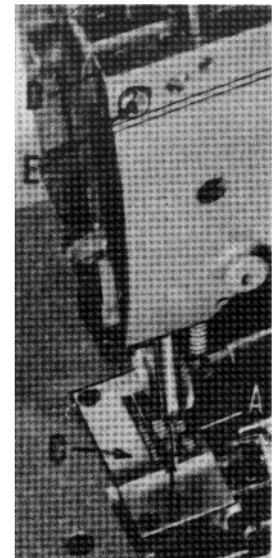

Fig. 3
Equalize the clearance between the needle (A, Fig. 3) and the right and left sides of the needle hole (B) in throat plate (C). This is accomplished by loosening set screw (D) and turning the eccentric stud (E) clockwise or counterclockwise until the described clearance has been obtained. Retighten set screw.